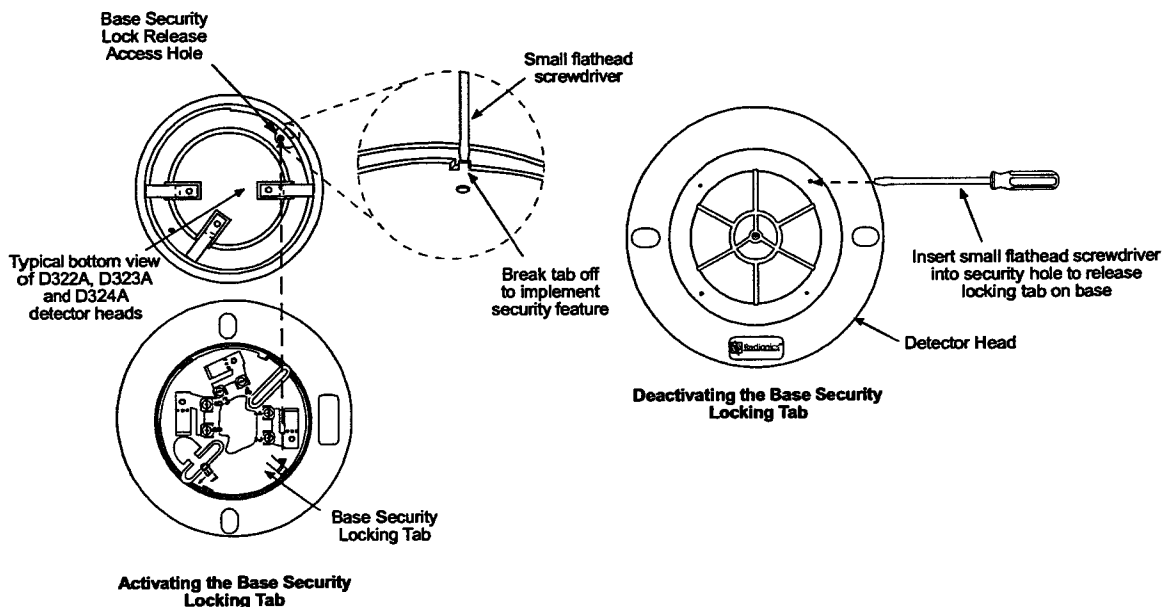

Figure 6: Base Security Locking Tab
- The following instructions will explain how to activate the security feature to prevent any unauthorized head removal, and to deactivate the security feature so that the sensor can be removed from the base. See Figure 6 for more information.
1. Take any sensor and turn it over to view the bottom as shown in Figure 6. Using a small flathead screwdriver, break the tab. This will allow the base security locking tab to stay elevated, thus preventing the sensor removal from the base.